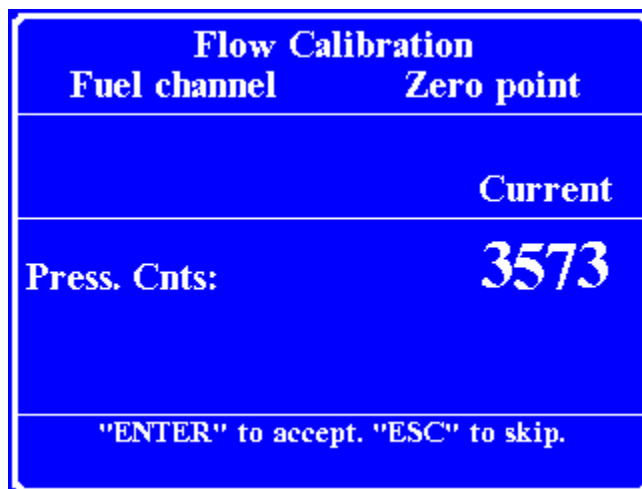

Figure 5-11. Flow Calibration (Zero Point) Screen
2. Use the ← arrow to select either Fuel, Air, or Sample. Press Enter to open the Flow Calibration screen (Zero Point). See figure 5-11.